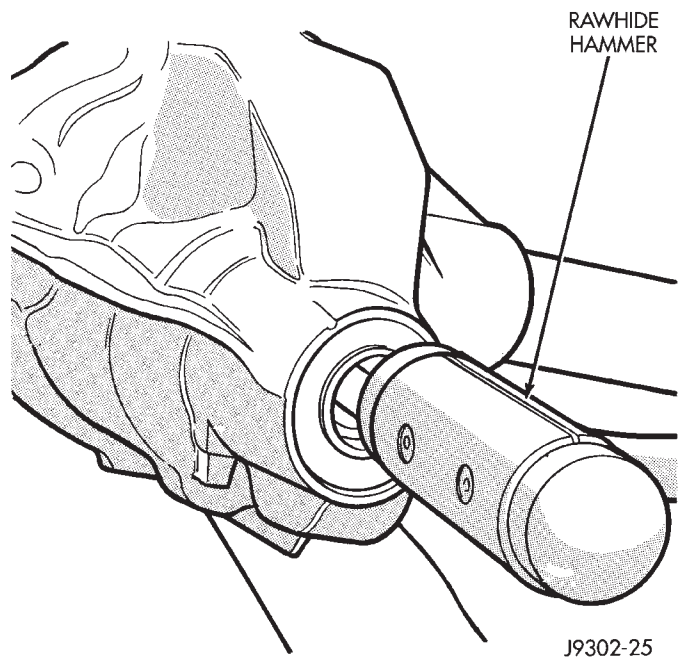

Fig. 38 Remove Pinion Gear
- (6) Remove the pinion gear and collapsible spacer from housing (Fig. 38). Catch the pinion with your hand to prevent it from falling and being damaged.